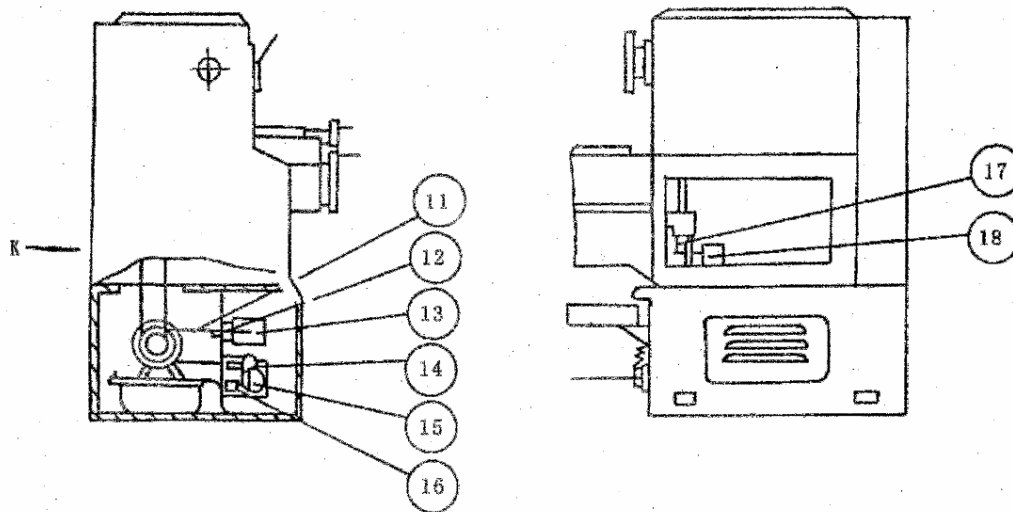

Fig.14-1 Structure of foot brake
Fig.14-1 shows the structure of the foot brake. It consists of pedal, connection rod, support, seat, cam, strain arm, pulley, steel band, braking assembly and electrical unit. As soon as the pedal (6) is trodden, cam (15) will disconnected the over-travel limit switch (16) with the help of strain arm (14), cut off the power to main motor. The motor is thus stopped under the combined action of strain arm (14) and steel band (11).
The main motor of machine can't be started unless the starting lever is set to NEUTRAL position. See Fig.14-1.
The attachment is fixed to machine as shown in Fig. 14-1. Support (1) is fastened to rear face of machine